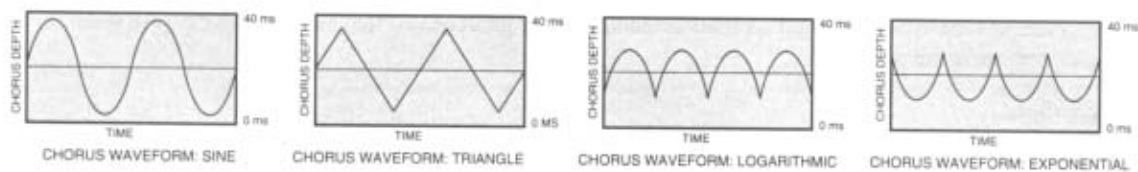

Fig. 4-7 LFO Waveforms
- Delay LFO Type**.....Controls the LFO waveform pattern of the modulation. SINE produces a smooth sine wave-type modulation with even transitions in and out of the turnaround points. TRIANGLE is a linear modulation effect, and ramps the pitch of the wave up and down with no slowing at turnaround points. LOGARITHMIC and EXPONENTIAL waveforms are more dramatic in their effect on the signal, producing a subtle bouncing. This Parameter appears only in Modulated Delay Modules. See fig. 4-7.
- Chorus Waveform ..... Controls the LFO waveform pattern of the chorus effect. SINE produces a smooth sine wave-type chorus with even transitions in and out of the turnaround points. TRIANGLE is a linear chorus effect, and ramps the pitch of the wave up and down with no slowing at turnaround points. LOGARITHMIC and EXPONENTIAL waveforms are more dramatic in their effect on the signal, producing a subtle bouncing. See fig. 4-7.